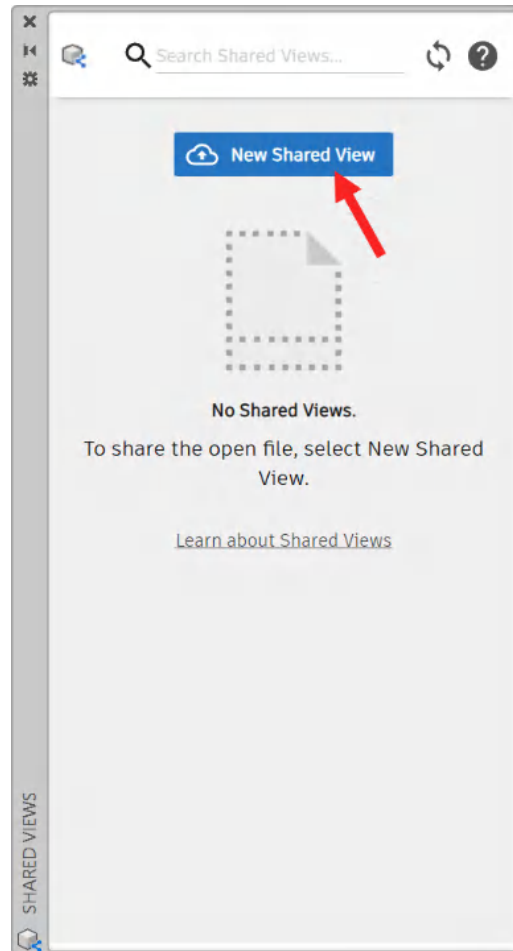

Figure 13.17: The Shared Views palette
2. Upon clicking on the **Shared Views** icon, the **Shared Views** palette will appear, as shown in *Figure 13.17*.
3. Upon opening, no shared views will be displayed in the palette, so click the **New Shared View** button, as shown in *Figure 13.17*.